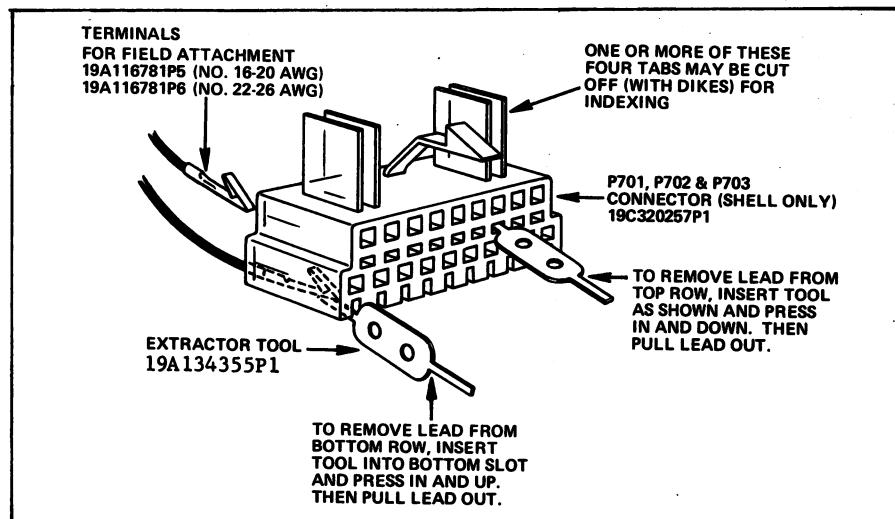

Figure 5 - Power/Control Cable Connector
The Power Control Cable may be either an 18-conductor, a 30-conductor cable or a 38-conductor cable. The 18-conductor cable has only one plug (P702). The 30-conductor and 38-conductor cables have two (2) plugs (P702 & P703). These plugs contain indexing tabs which prevent inadvertently connecting the plugs to an incorrect jack on the Control Unit (see Figure 5).